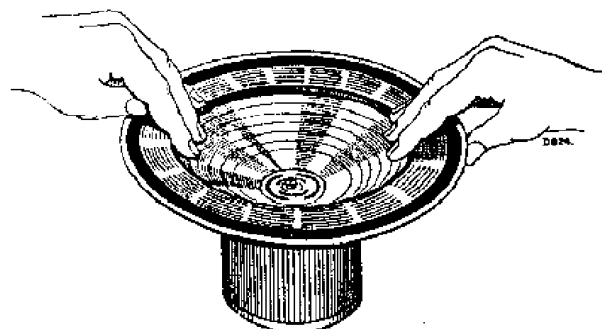

Fig. 5.
Loosen the centring screw (item 106); place four distance pieces of 0.2 m.m. thickness (Code No. 09.990.840) through the perforations of the spider into the air-gap. Refix the centring screw and withdraw the distance pieces. No sound should now be heard when the cone is carefully moved up and down (fig. 5).
The coil has become jammed in the air-gap (test as shown in fig. 5) or there is a partial short in the windings of the speech coil or transformer.